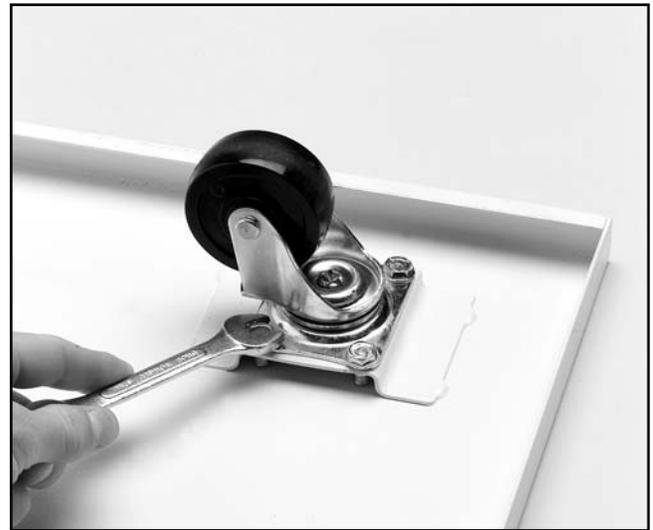

Figure 8. Mounting the casters to the base.
Position the base upside down to reveal the caster mounting brackets. Attach each of the (4) casters to the caster mounting brackets using (16) $\frac{5}{16}$ "-18 x $\frac{1}{2}$ " hex bolts as shown in **Figure 8**.